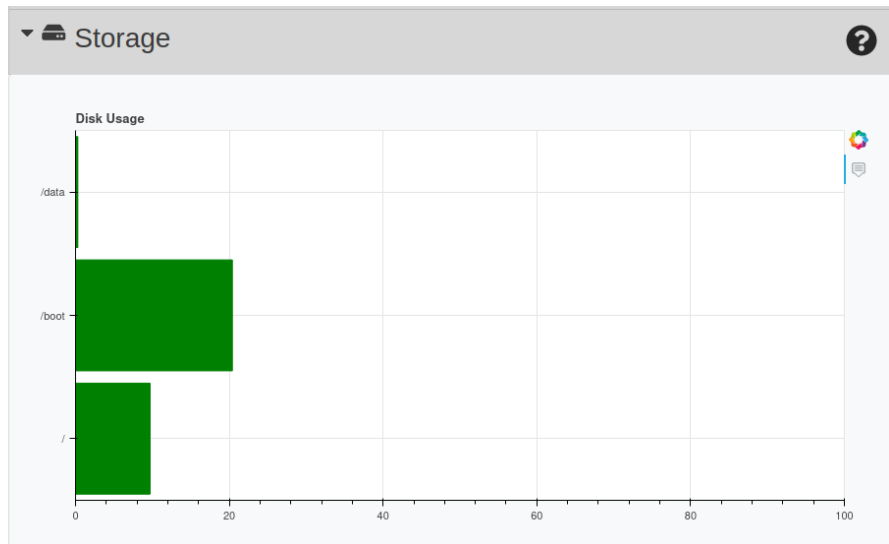

Fig. 9 Disk usage data as presented on the storage settings page
Users can view disk usage information from the storage settings page (Fig. 9). This page displays disk usage information for all mounted data partitions on the system’s secure digital (SD) card. In the default configuration of ARTEMIS, there are three mounted partitions: the root file system (“/”), the boot partition (“/boot”) and the on-card data partition (“/data”). The root file system refers to all files on the Linux OS, which also includes storage of the PostgreSQL database. The boot partition contains information necessary for ARTEMIS to read on start-up and should not be edited. Finally, the /data partition contains phasor data files that have been streamed from the Zynq field-programmable gate array (FPGA) onto the main system’s SD